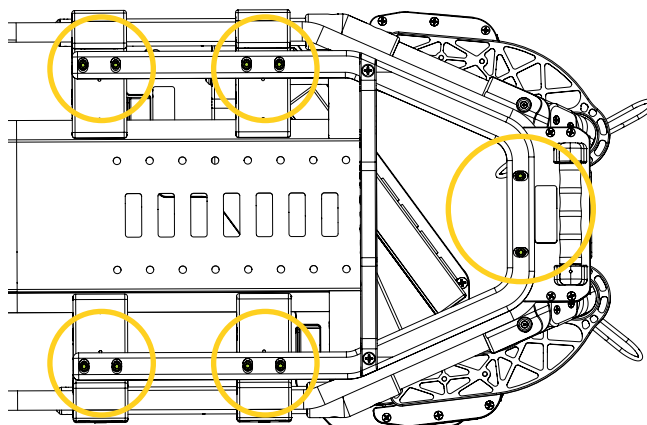

Figure 27: Tightening the clamp blocks and handle screws (bottom view)
11. Once the mobile structure is installed and properly secured, tighten the eight (8) clamp block screws and two (2) handle screws (Figure 27) using a 3/16 in. hex key.